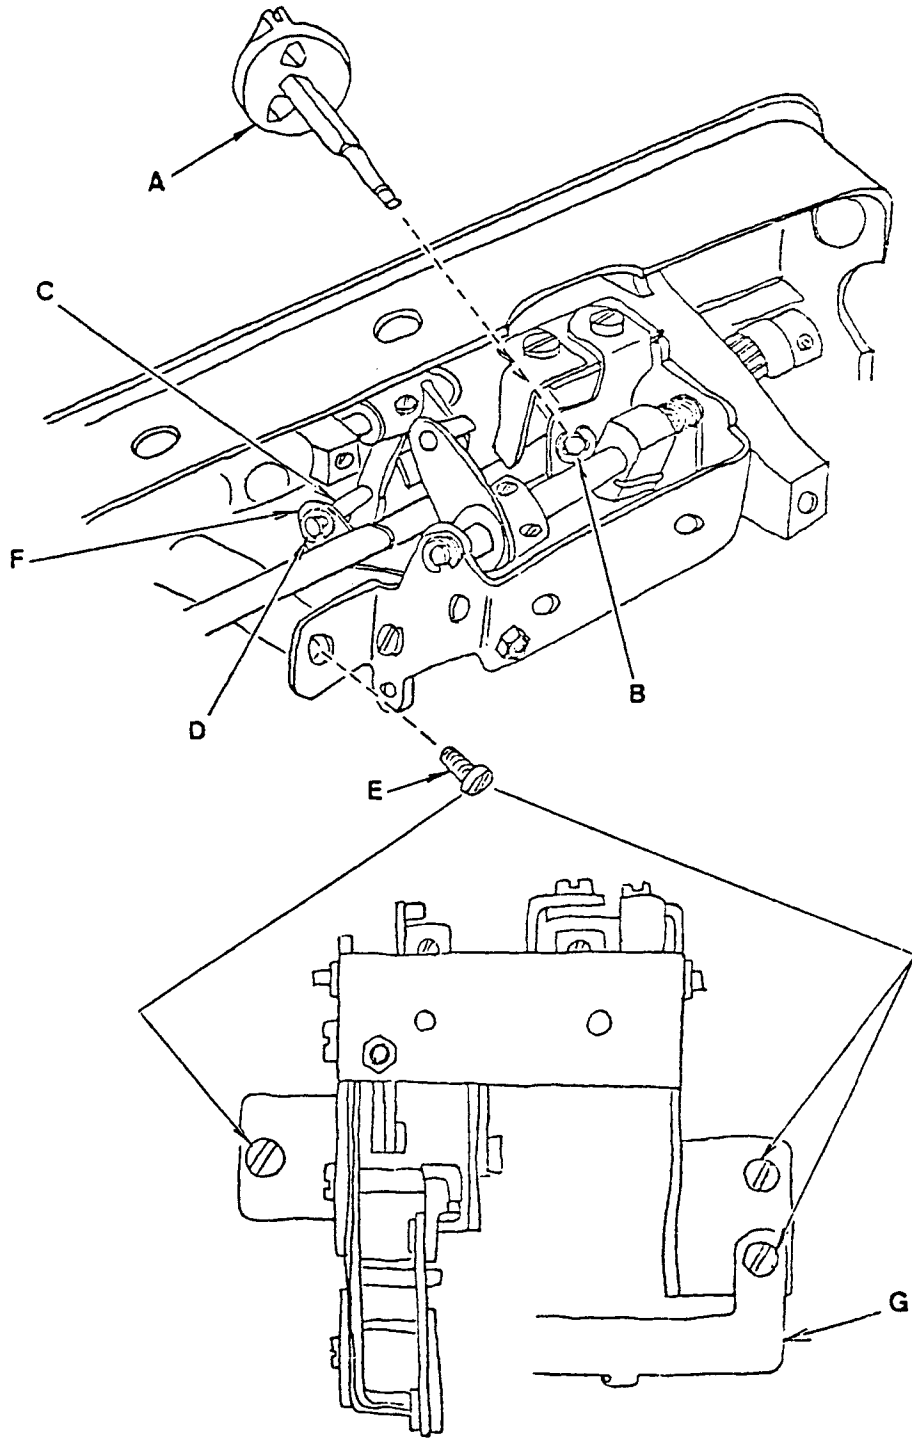

Fig. 27
3. Set feed control knob (A) (stitch length dial) to "0".
4. Remove retaining ring (B) from feed control knob shaft and pull feed control knob and shaft (A) up and out of machine.
5. Remove three screws (E) holding feed control mounting bracket and remove feed control mounting bracket.
NOTE: Removal of above screws will also unfasten sewing light harness bracket (G). (Fig. 27).